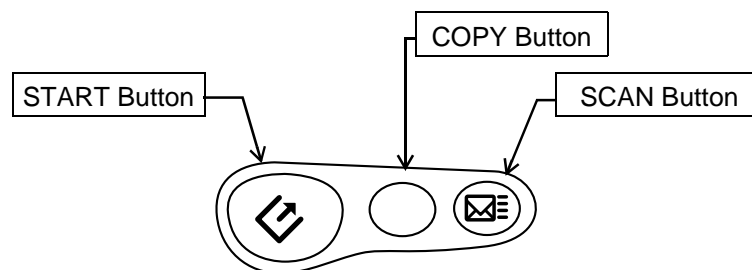

Figure 1-4. Push Button Switch
- Push Button Switch (3) - Front (See Figure 1-4.)